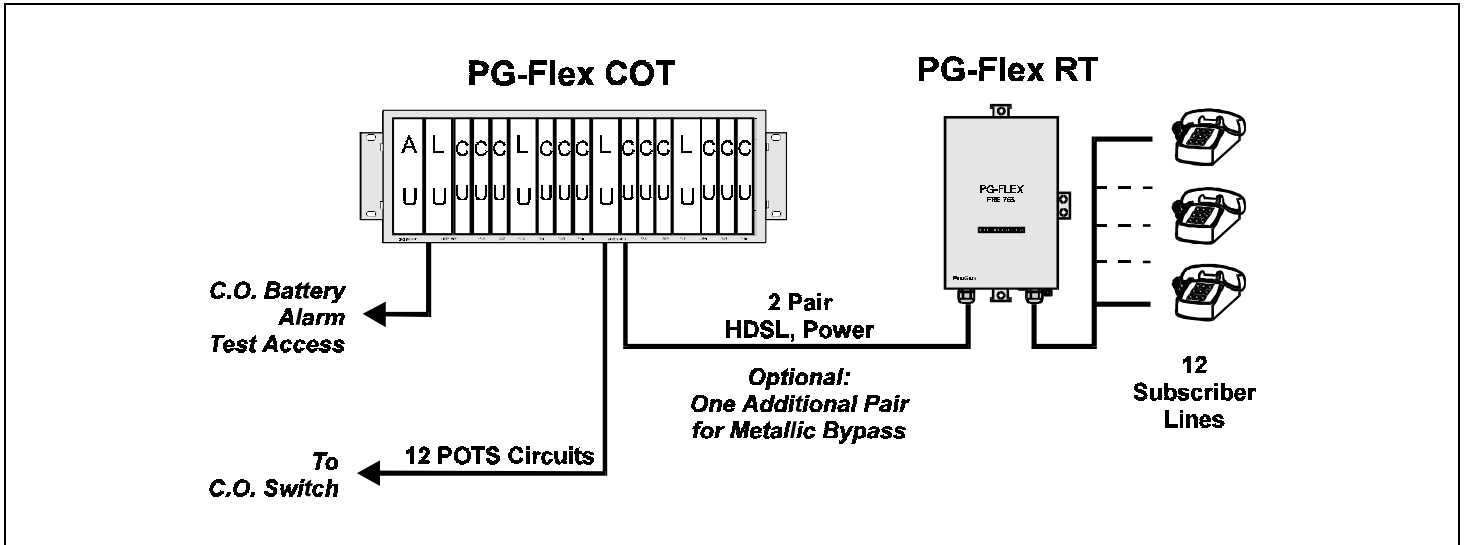

Figure 2. Typical PG-Flex Configuration.
2.02 System Flex Configuration. A PG-Flex system, shown in Figure 2, consists of:
- Remote Terminal (RT). The RT Enclosure provides a weatherproof housing for the PG-Flex remote electronics and subscriber
2.05 For the system configuration depicted in Figure 2, the maximum distance between the COT and the RT is 12.3 kft (3.8 km), assuming the HDSL lines are 24 gauge. Table 1 shows the maximum distance between the COT and RT for various gauge wire. Due to the nature of HDSL transmission technology, the HDSL lines do not require any special conditioning and may include unterminated bridge taps, but cannot include load coils.